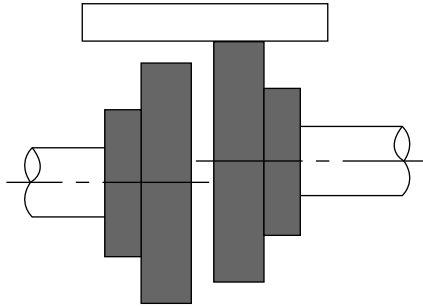

FIGURE 80. Straight-Edge Method of Checking Parallel Alignment
- **Note:** Only when absolutely necessary should shims be adjusted or added under the pump. When a dial indicator is not available, an alternate method for checking parallelism is the straight-edge method shown in Figure 80.